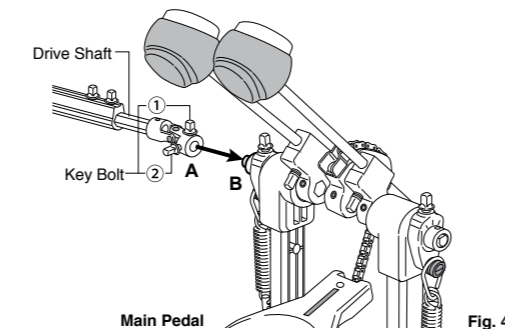

Fig. 4
Connect the ends of the Drive Shaft (A) to the short extensions (B) on the Main and Slave Side Pedals. You may need to rotate the Cam on the Slave Side Pedal to bring the footboard of the Slave Side (left) Pedal to the proper playing height (angle) before attaching the Drive Shaft Joints (A) to both pedals. Tighten Key Bolt ① with the provided Drum Key and then Key Bolt ② (Figs.4, 5).